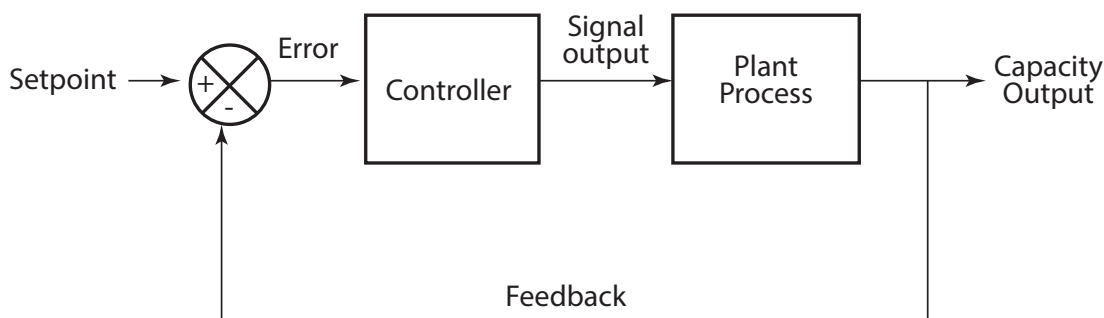

Fig 4
The block diagram above (Fig 4) is a model of continuously modulated control, a feedback controller is used to automatically control a process or operation. The control system compares the value or status of the process variable being controlled with the desired value or setpoint (SP) and applies the difference as a control signal to bring the process variable output of the plant to the same value as the setpoint.